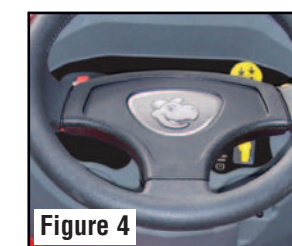

Figure 4
- Attach the steering wheel cover (Figure 4) to the center of the steering wheel.